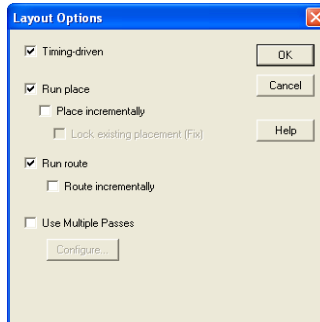

Figure 3-27. Layout Options Dialog Box
4. In Designer, click **Layout**. This opens the Layout Options dialog box shown in Figure 3-27.